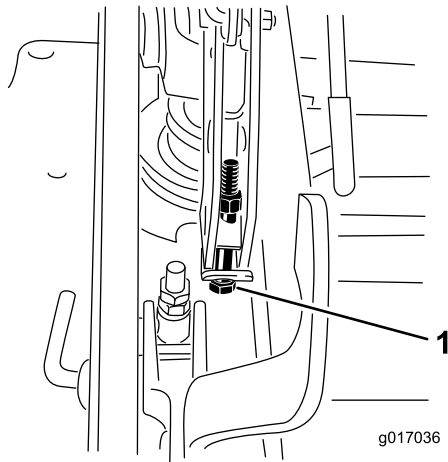

Figure 101
12. If the deck is too low, tighten the single-point-adjustment bolt by rotating it clockwise. If the deck is too high, loosen the single-point-adjustment bolt by rotating it counterclockwise (Figure 101).